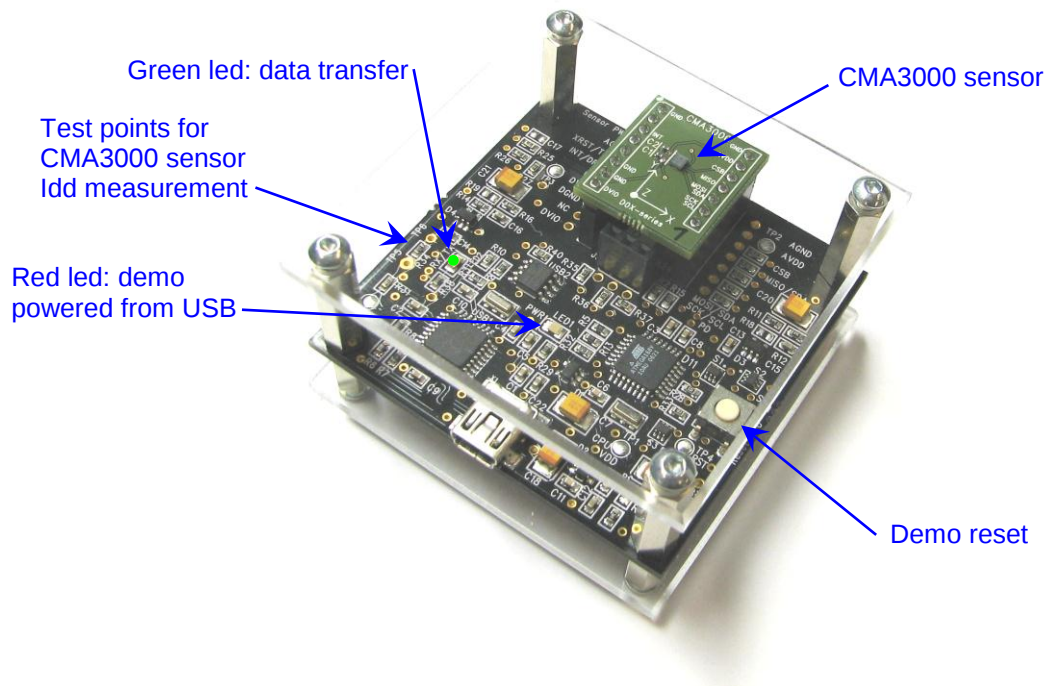
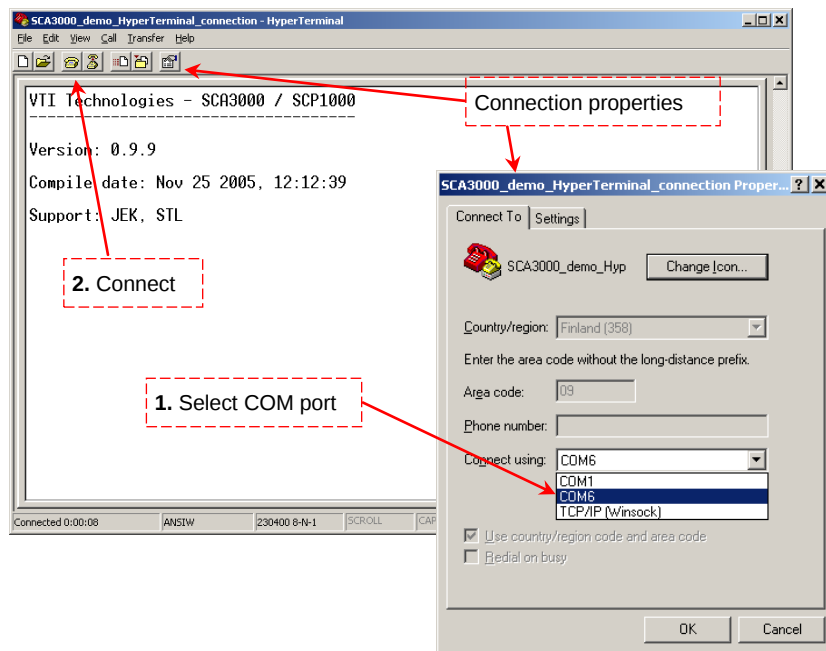

Figure 1. CMA3000 demo USB interface board and CMA3000 PWB.
Figure 12. Windows HyperTerminal with CMA3000 demo info text.
- CMA3000 sensor soldered on chip carrier PWB (see Figure 1 on next page)
- USB interface card (see Figure 1 on next page)
The CMA3000 DEMO KIT USB interface board (black PWB) and CMA3000 PWB (green PWB) are shown in Figure 1. The USB interface card converts the USB interface to SPI or I²C interface. CMA3000 sensor is soldered on PWB which is connected to interface board.
MCU can be reset by exiting from the GUI and then pressing the reset button (Figure 1) on USB interface board.
5. Press demo reset button (see Figure 1). CMA3000 DEMO KIT sends an info text to HyperTerminal (see Figure 12). If the HyperTerminal software is unable to connect the CMA3000 DEMO KIT or the info text does not appear,
- press reset button on CMA3000 DEMO KIT.until info text appears to HyperTerminal screen (see Figure 12).
- see if the info text appears on the screen (see Figure 12)→ if the info text is transmitted, the communication between the demo kit and PC is ok